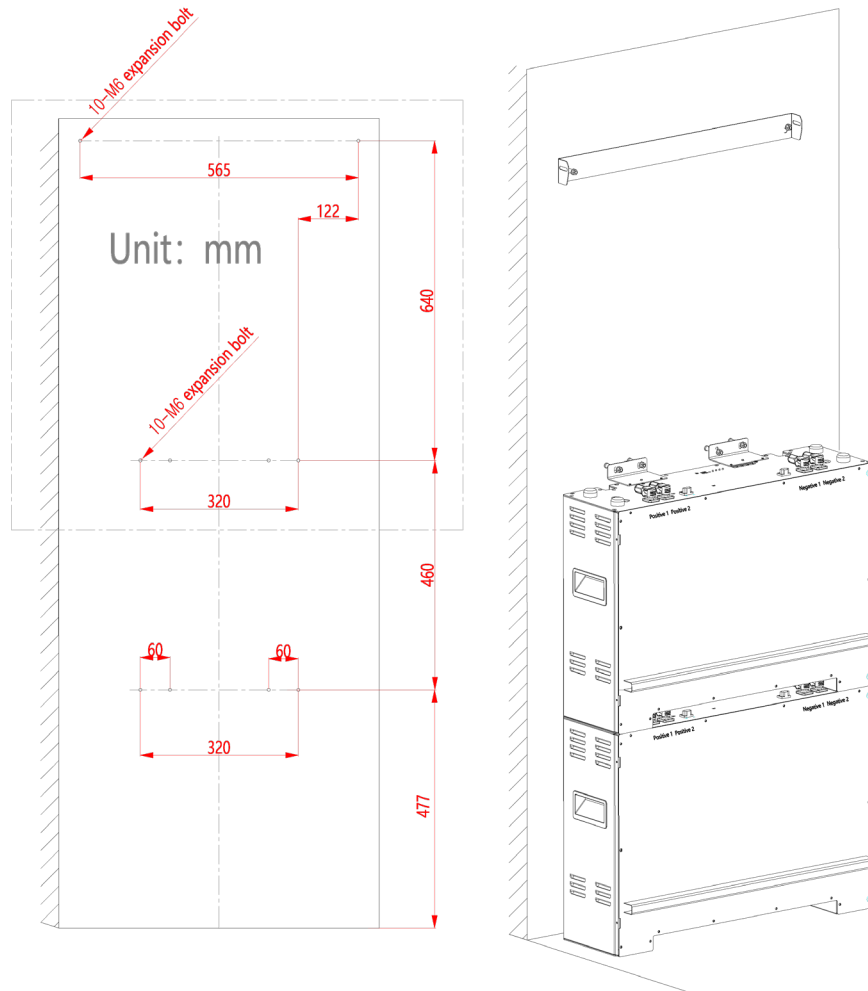

Figure 5
2. install wall-hanging shelf and tighten the screw.(Figure 5)